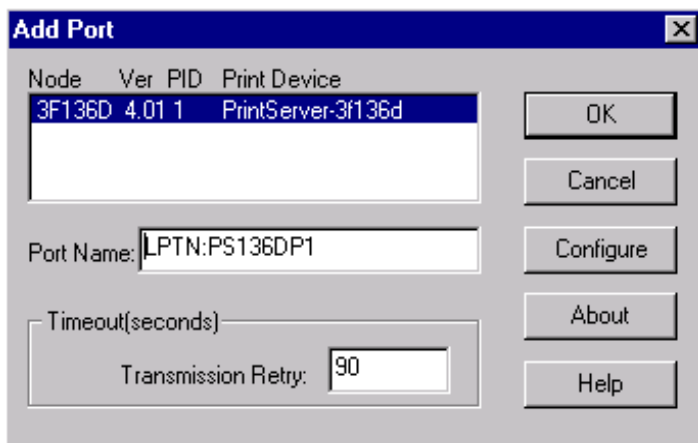

Figure 4-10
20. The Add Port box will appear along with the print server's Node ID as shown in Figure 4-10 (*Last 6 characters located on the back of the print server unit*). Select a print server from the list.